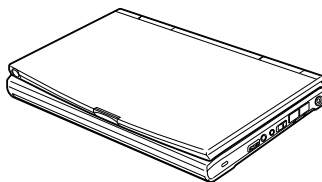

Figure 1-1 LifeBook B112 Notebook
- LifeBook B112 with stylus from Fujitsu (Figure 1-1.)